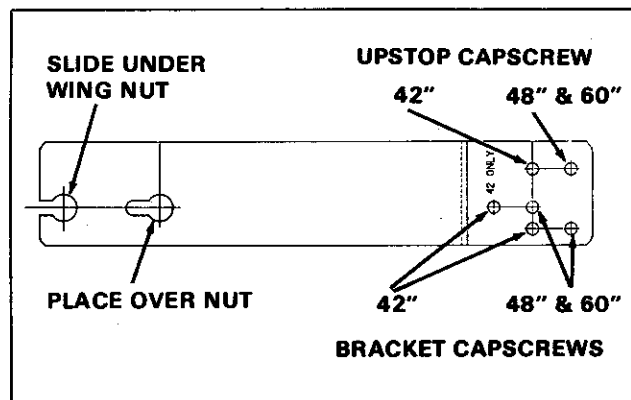

Figure 14. (Typical Bracket Shown)
- b. Install bracket with two 1/4-20 x 3/4 trusshead screws and 1/4 locknuts. Refer to figure 14 for correct capscrew location for mower size.
- a. Install upstop (I) with one 1/4-20 x 7/8 capscrew (K), 1/4-20 x 5/8 capscrew (L) and 1/4 locknuts. Note that capscrew (K) goes through bracket. Refer to figure 14 for correct location for mower size.